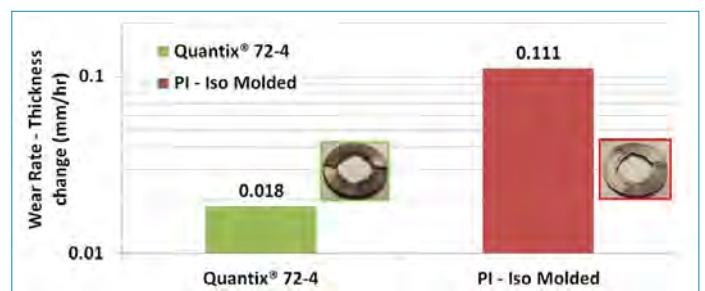

Figure 5 Comparison of wear performance of pinion thrust washers
This case study was for a pinion gear thrust washer where lubrication is minimal, application pressures are high and velocities are low, resulting in operation predominantly in the boundary lubrication regime. The test condition were as follows: Pressure = 17 MPa (2500 psi); V = 0.7 m/s (750 rpm, 150 fpm); Flow rate = 0.076 L/min (0.02 GPM); Inlet Temperature of ATF = 75 °C (160 °F). Thrust washers with the same geometry were tested in two materials (1) Iso statically molded PI and (2) Quantix®72-4. The resulting wear of the thrust washers are compared in Figure 5. Although the friction coefficients for both the thrust washers were identical during the test (COF = 0.085), significant differences are clear from a wear perspective. The PI material had a total wear of over 0.5 mm resulting in the groove being completely worn away while the Quantix®72-4 material had less than 0.09 mm of total wear (wear rates plotted in Figure 5).